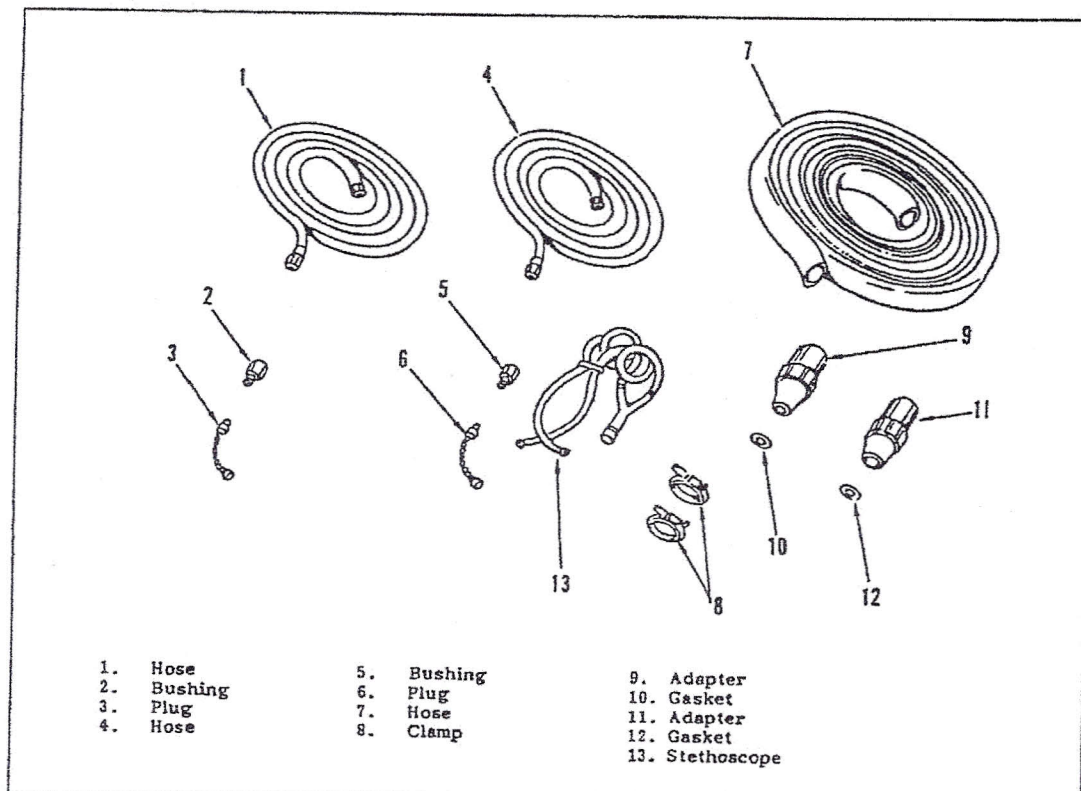

Figure 4-6. Accessory Equipment
4-15. CONNECTING TESTER TO AIRCRAFT. (See Figure 4-6). The tester is connected to the aircraft by three 25 foot hoses. One hose is a three-inch diameter hose (7) and the other two are small diameter rubber covered flexible hoses (1 and 4). The hoses are stowed on hose racks located in front of the tester. Make sure the three-inch hose is properly installed over outlet fitting before securing with clamp. Connect the tester to aircraft as follows:
a. Uncoil and assemble the three-inch hose (7) to the tester air outlet connection.
c. Connect hose (7) to the aircraft adapter.
d. Use the hose clamps (8) to secure the hose at tester and aircraft adapter.
- f. Do not operate tester with free end of hoses (1, 4, or 7, Figure 4-6) free. Always remove hoses or secure free ends to prevent whipping.